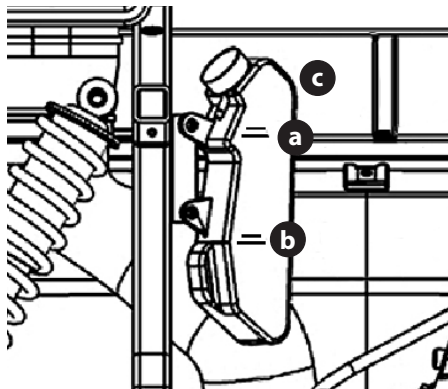

Figure 22
2. Check to see that the coolant level is between the FULL (a) and LOW (b) marks of recovery tank (c) (Figure 22).